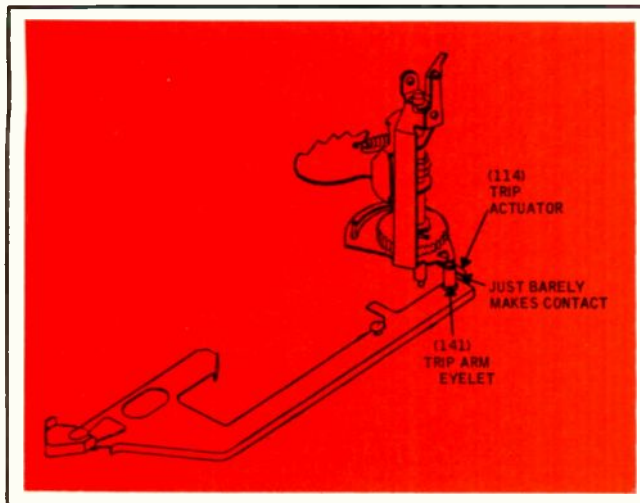

Fig. 3—Trip actuator adjustment details for G-E RD200, 210 and 225 group of record changer models.
Cycle the changer by hand into the 7in. record position. The cycling mechanism should be stopped just before the tone arm contacts the record. At this moment the trip actuator (114) as shown in Fig. 3, should just barely contact the velocity trip arm eyelet (141) when holding the velocity trip arm to its rear-most position. The trip actuator may be adjusted to the front or rear by inserting and turning a flat screwdriver in the trip actuator slot from the bottom of the main mechanism. The trip actuator con-